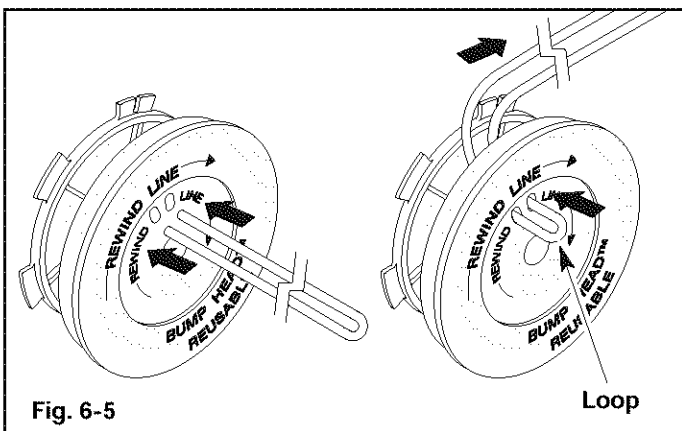

Fig. 6-5
6. Cut approximately 20 feet (6 m) of new trimming line, then loop it into two equal lengths. Insert each end of the line through one of the two holes in the inner reel. Pull the line through the inner reel so that the loop is as small as possible (Fig. 6-5).